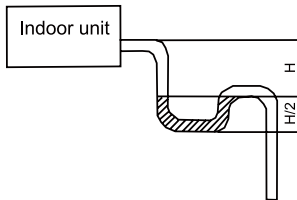

Fig.21
- (4). When the drain hose cannot keep a sufficient gradient, it is necessary to fit a riser pipe (field supplied) to it.
- (5). If the air flow of indoor air is high, this might cause negative pressure and result in return suction of outdoor air. Therefore, U-type water trap shall be designed on the drainage side of each indoor unit.(Fig.21)
- (6). Install one water trap for each unit.
- (7). Installation of water trap shall consider easy cleaning in the future.